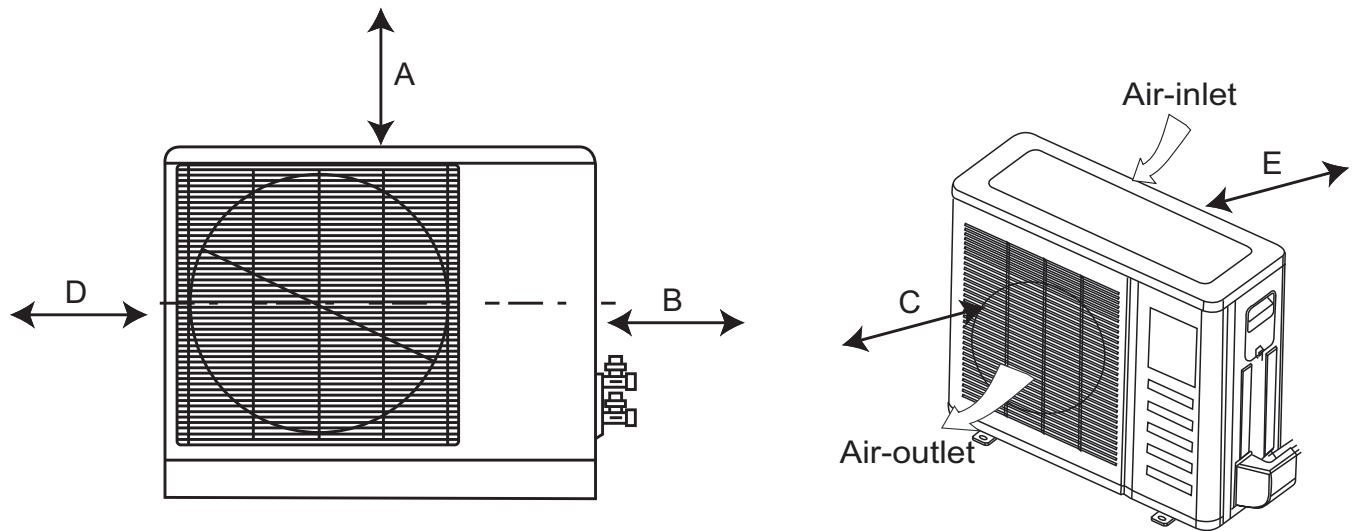

Fig. 3 – Outdoor Unit Clearance
Allow sufficient space for airflow and service of the unit. See Fig. 3 for the required minimum distances between the unit, walls or ceilings.
- A location which provides appropriate clearances (see Fig. 3).